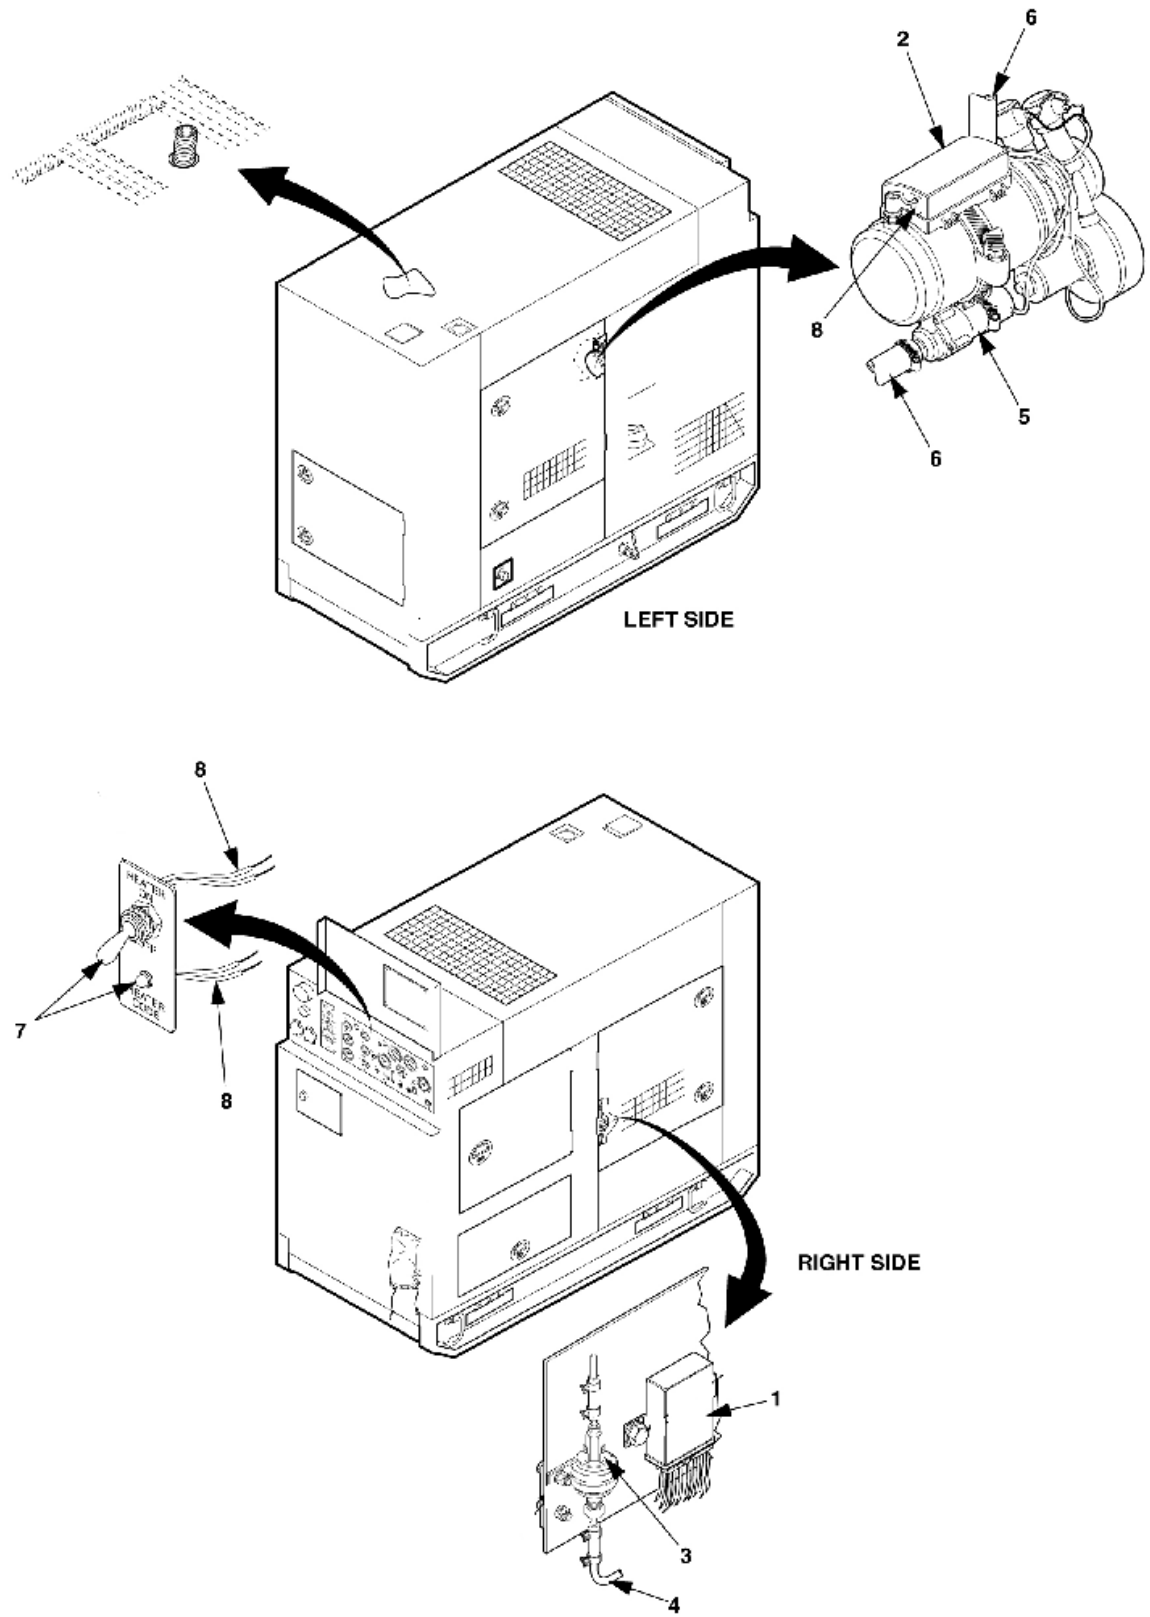

Figure 1-1. Location of Major Components for 30kW (MEP-805A, MEP-815A).
Figure 1-1 illustrates the major components of the kit and shows their locations on the 30kW Tactical Quiet Generator Set. (Refer to Table 1-1 for item names).
2-1.1.1 Heater Indicator Light. A light at the heater ON-OFF switch (item 7, figure 1-1) lights when the heater is operating. The light also serves as a troubleshooting code light (See paragraph 3-1.1).